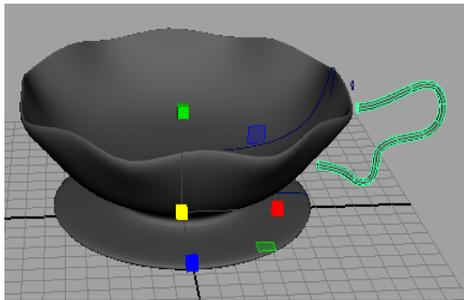

Figure 3-91 The extruded surface displayed
6. Make sure the NURBS circle is selected and then select the profile curve using the SHIFT key. Next, choose **Surfaces > Extrude** from the menubar; the extruded surface is created, refer to Figure 3-91. Next, select the extruded surface. In the **extrude1** tab of the **Attribute Editor**, make sure the **Component Pivot** is selected from the **Use Component Pivot** drop-down list.